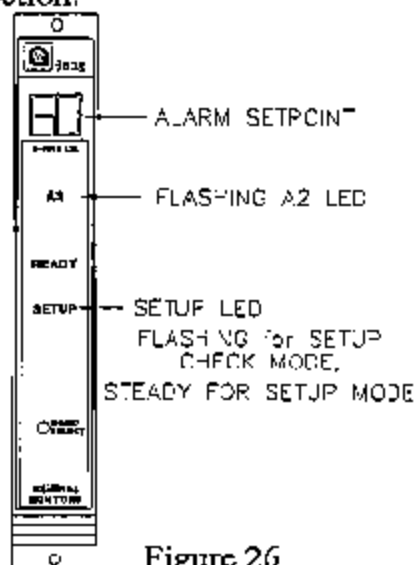

Figure 26
- The last A2 alarm option to appear on the display will be the alarm set point (trip level). If this level is reached or exceeded the A2 alarm outputs will activate. The display (figure 26) will indicate the current A2 alarm set point (10 to 60 in increments of 5). Press the Mode/Select switch repeatedly, until the desired A2 alarm set point appears on the display. **60** is the factory default for this selection.